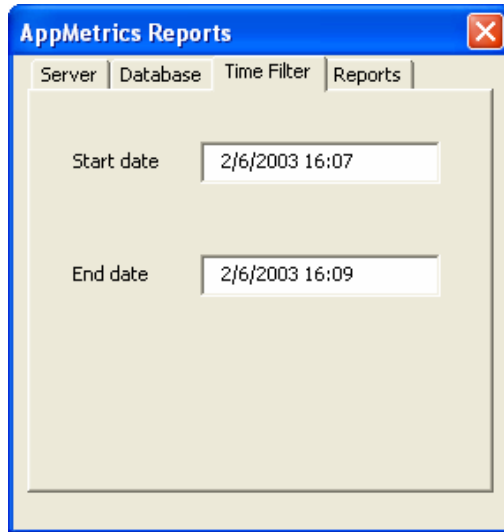

Figure 15
5. Click on the **Time Filter** tab to select the time period of the data to be viewed. This tab provides dates and times that are available (i.e. data was generated and uploaded to the database) for the monitor chosen in the Dataset tab (see Figure 15).